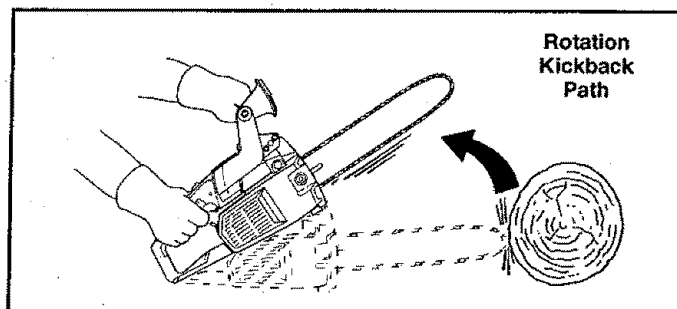

Figure 2
- **Never let the moving chain contact any object at the tip of the guide bar.** Figure 2